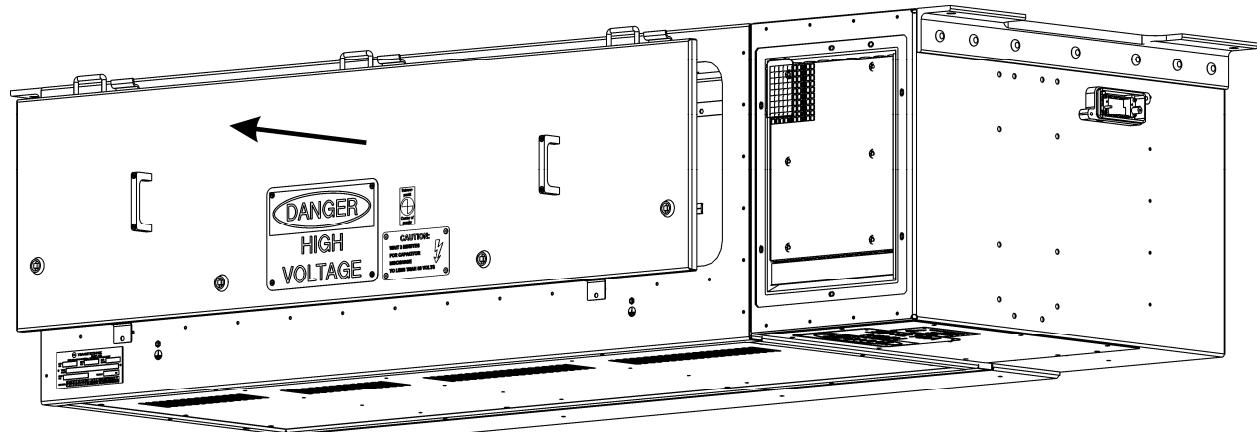

Figure 3-3: Remove Dry Section Cover (3)
5. Remove the dry section service cover from the support brackets and store it on a safe place. See Figure 3-3.